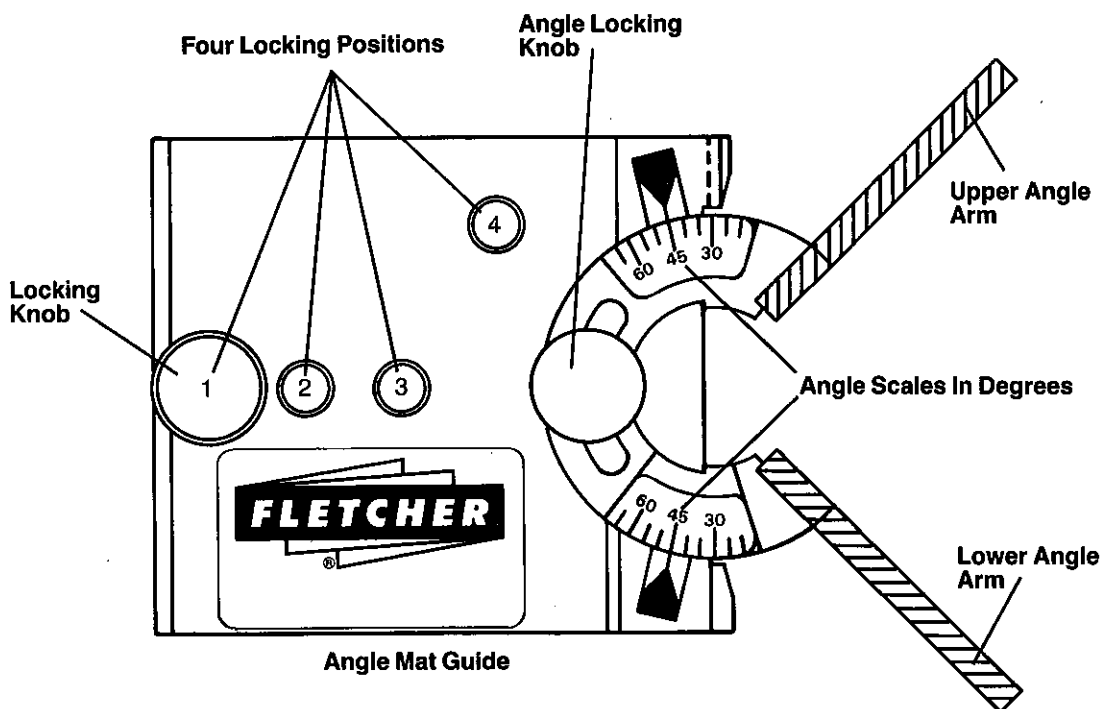

Figure 18.
2. It is usually desirable to set both **Angle Arms** of the **Angle Mat Guide** so they create a 90 degree angle. This permits the corner of the mat to be accurately located. Set both **Angle Arms** at 45 degrees. Place a 90 degree drafting triangle between them while tightening the **Angle Locking Knob**. (See Fig. 18). You can use a corner of your mat instead of a triangle if it is well squared.
4. Now make the 4 cuts (A), starting and stopping at lines B to control over cuts. Be sure the corner of the mat is well seated against both **Angle Arms** during each cut.